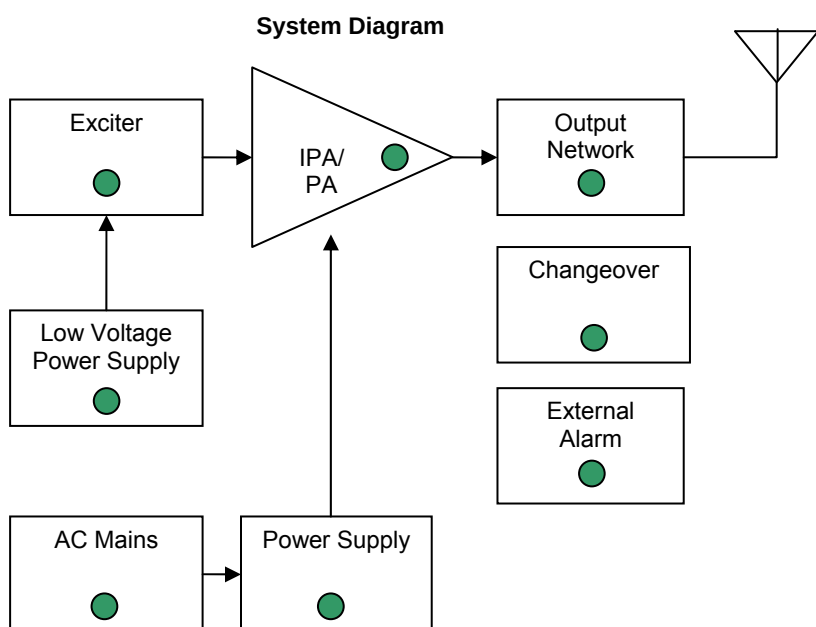

Figure 3-2 Vector-LP Transmitter Front Panel – System Diagram Section
- **System Diagram** - a simple block diagram of the transmitter complete with alarm lamps. Refer to Figure 3-2 and Table 3-1 for a description of the controls and indicators.